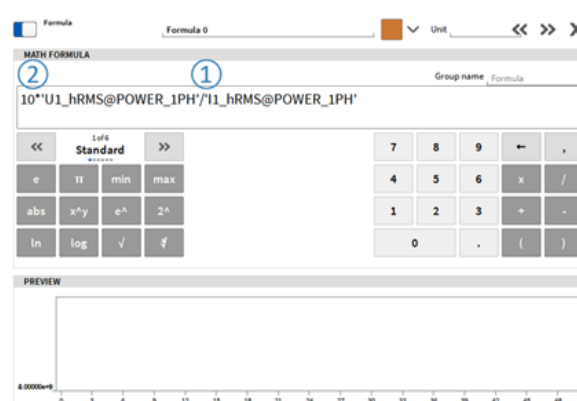

Fig. 7.70: Basic math operations for arrays
- Basic math operations for arrays with same dimensions supported (see ① in Fig. 7.70): + - \* /
- Operations (+ - \* /) with arrays and constants (see ② in Fig. 7.70)